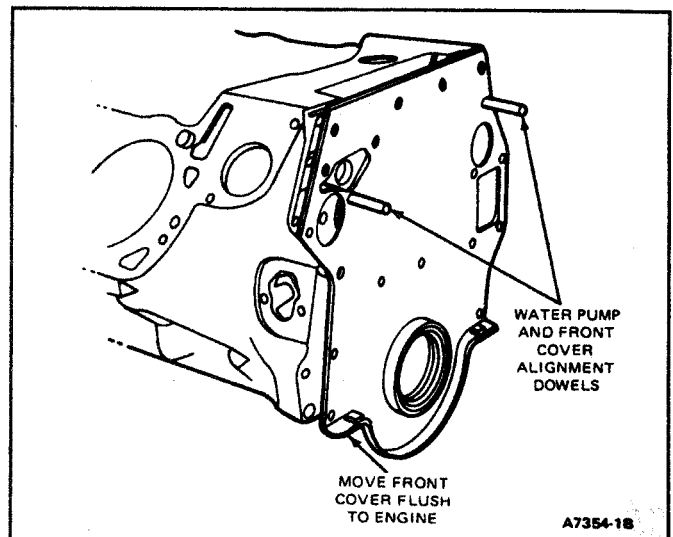

FIG. 29 Water Pump and Front Cover Installation Dowels
2. Install fabricated dowel pins for water pump alignment (Fig. 29).